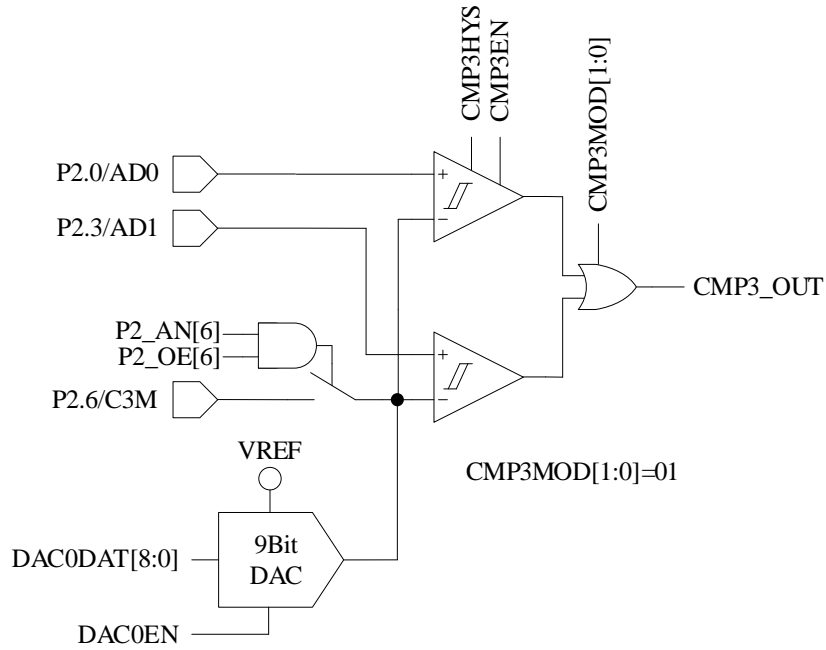
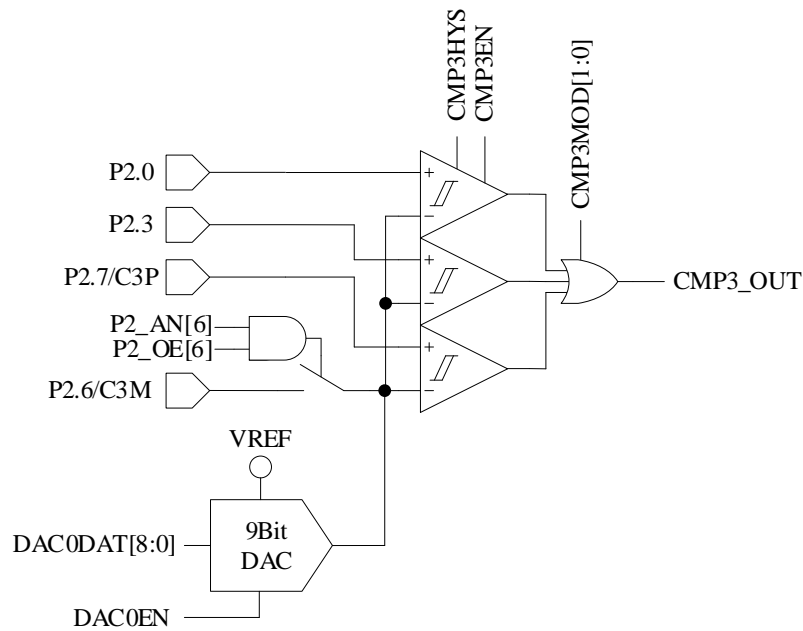

Figure 31-3 Dual-comparator Input Mode
Figure 31-4 Triple-comparator Input Mode
- When CMP_CR1[CMP3MOD] = 01, CMP3 works in Dual-comparator Input Mode. The connection of input and output pins are shown in Figure 31-3.
- When CMP_CR1[CMP3MOD] = 1X, CMP3 works in Three-comparator Input Mode. The connection of input and output pins are as shown in Figure 31-4.
input, as shown in Figure 31-3. 1X: Three-comparator mode, where P2.0, P2.3 and P2.7 are connected to the positive input, as shown in Figure 31-4.